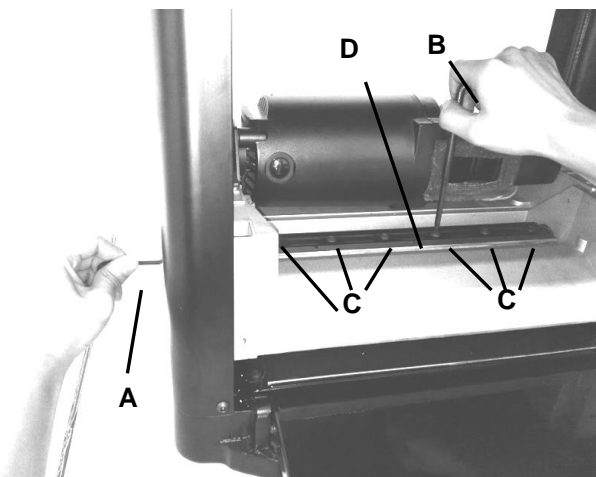

FIG 8
4. Rotate the cutterhead with the supplied Hex wrench (A). Rotate the cutterhead using the wrench to the position where the sharp edge of the blade is not visible from your sight angle. SEE FIG 8 on the following page.
5. Using the supplied torx wrench (B), unscrew the six screws (C) just enough so that the locking bar (D) separates from the knife (E), allowing the knife to be removed. Do not completely remove the screws. Insert the magnetic knife removal tool (F) underneath the center of the locking bar. SEE FIG 8 & 9 on the following page.